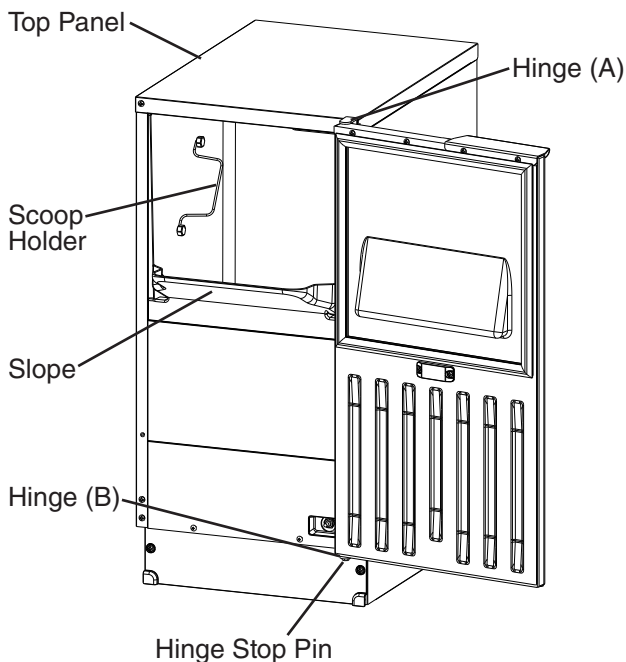

Fig. 32
- 3) While maintaining a hold on the door, remove the hinge stop pin from hinge (B). Pull out the bottom of the door slightly, then gently remove the door from hinge (A). See Fig. 32.